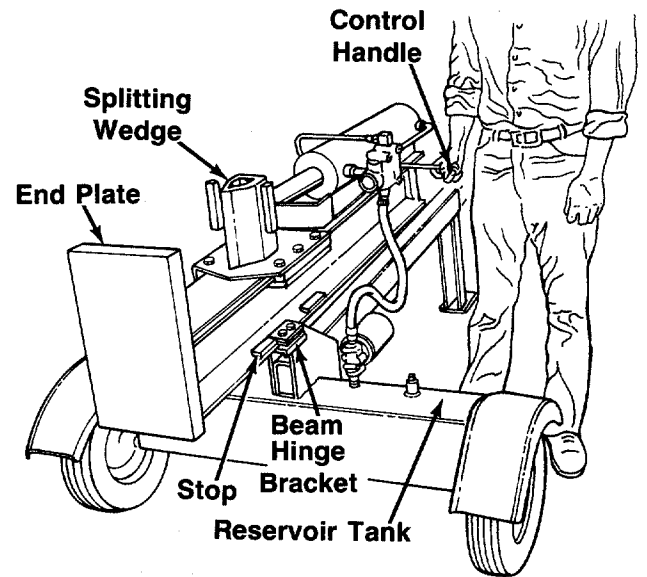

FIGURE 15.—Horizontal Position
- b. **Horizontal operation:** Make certain the beam is adjusted to sit as far over the tongue as possible (beam hinge bracket is against the stop as shown in figure 15).
Beam must be positioned as shown in figure 15 when operating in the horizontal position.
If the logs to be split are all of a standard length less than 24", adjust the log dislodger as follows. See figure 15.